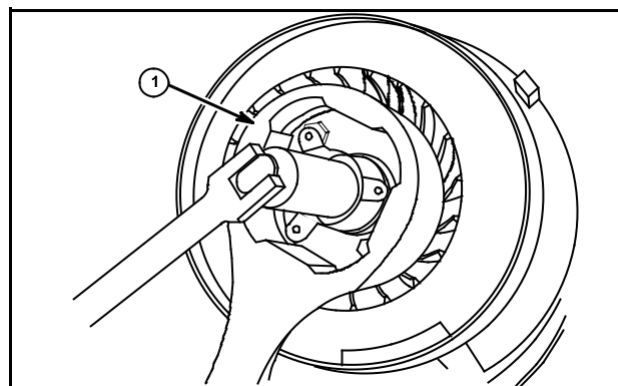

Fig. 9
2. Place Tool #19321, Flywheel Holder (1), on fan retainer with lugs of flywheel holder engaging the slots of the fan retainer, or use Tool #19372, Flywheel Holder.
3. Loosen flywheel nut, flywheel screw, or rewind starter clutch with socket and wrench or Tool #19244, Starter Clutch Wrench, and wrench, Fig. 9.